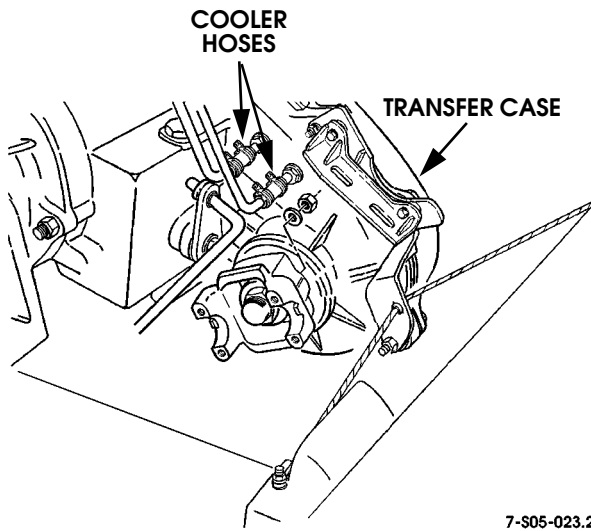

Figure 5-81: Cooler Hose Connections
6. Disconnect cooler hoses at transfer case (Figure 5-81).